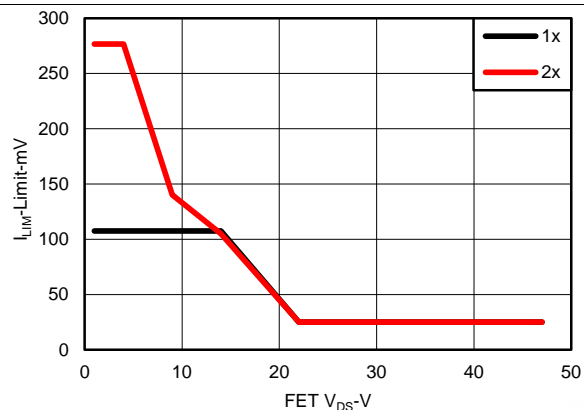

Figure 14. Current Limit Threshold vs FET Voltage
**GATE1-GATE4:** Port 1-4 gate drive output used for external N-channel MOSFET gate control. At port turn on, it is driven positive by a low-current source to turn the MOSFET on. GATEn is pulled low whenever any of the input supplies are low or if an over-current timeout has occurred. GATEn will also be pulled low if its port is turned off during fast shutdown. Leave floating if unused. For a robust design, a current-foldback function limits the power dissipation of the MOSFET during low resistance load or a short-circuit event. The foldback mechanism measures the port voltage across AGND and DRAINn to reduce the current-limit threshold as shown in Figure 14, Figure 57, and Figure 58. The fast overload protection is for major faults like a direct short. This forces down the current within the current limit in less than a microsecond. When ICUT threshold is exceeded while a port is on, a timer starts. During that time, linear current limiting makes sure the current will not exceed ILIM combined with current-foldback action. When the timer reaches its  $t_{OVL D}$  (or  $t_{START}$  if at port turn on) limit, the port shuts off. When the port current goes below  $I_{CUT}$ , the counter counts down at a rate  $1/16^{th}$  of the increment rate, and it must reach a count of zero before the port can be turned on again.